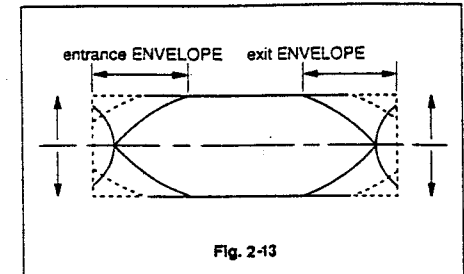

Fig. 2-13
- Switch the REVIEW mode to the PLAY mode. Make sure state within 3 seconds as shown in Fig. 2-13. If it does not rise within 3 seconds after servo locking adjust as follows.
- Record video signals (color bar or monoscope on T-120 Tape) and make sure the playback envelope output meets the specification as shown in Fig. 2-13.